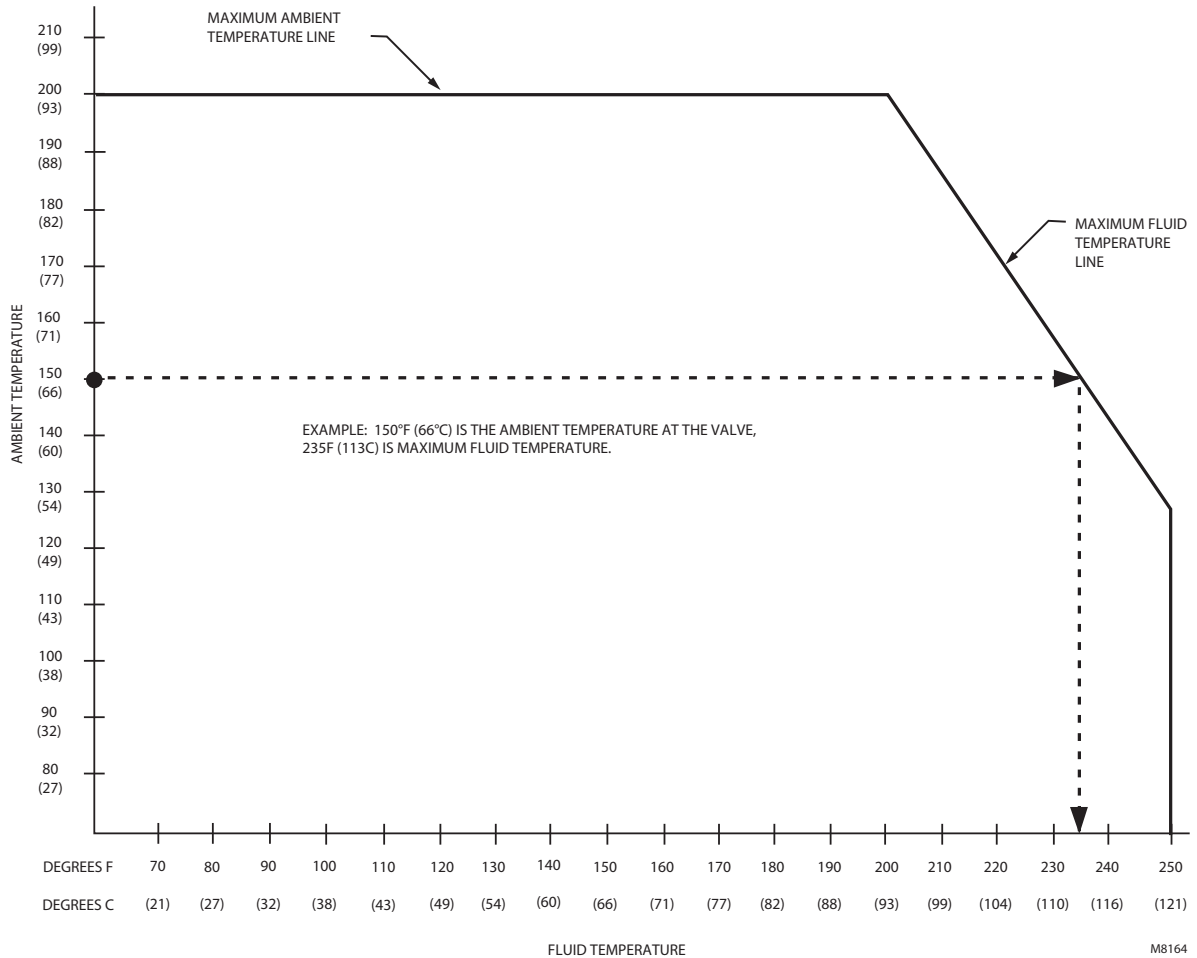

Fig. 2. Maximum temperature characteristics of valves with Class F motors.
The maximum operating temperature for motorized valves depends on the maximum ambient temperature at the valve location, and on the maximum fluid temperature. Using the graph in Fig. 2, find the maximum valve operating temperature as follows:
3. Draw a line from that point down to the fluid temperature scale to find the maximum operating temperature. (Note the example shown by the dashed line in Fig. 2)